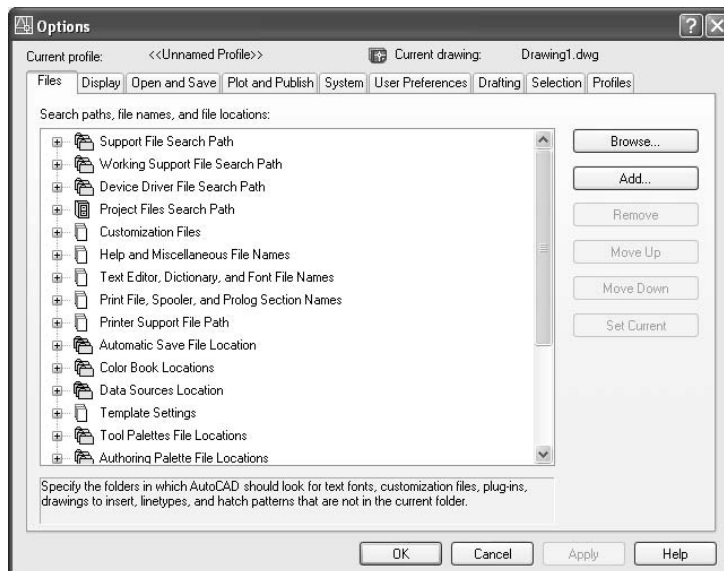

FIGURE 1.3: The Options dialog box
1. Choose Tools > Options to open the Options dialog box (shown in Figure 1.3). It has nine tabs (LT has only eight) across the top that act like tabs on file folders.